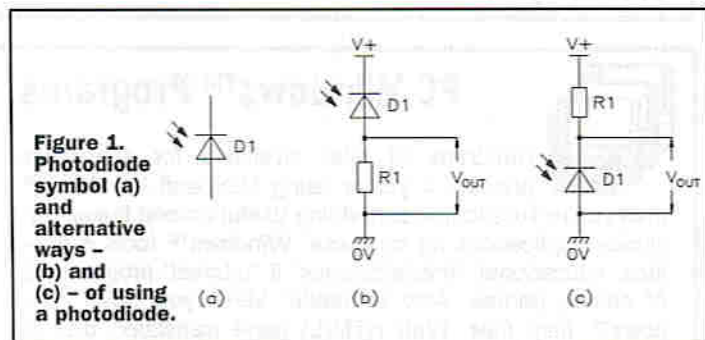

Figure 1. Photodiode symbol (a) and alternative ways - (b) and (c) - of using a photodiode.
inherently photosensitive; they act as very high impedances under dark conditions and as low impedances under bright ones. Normal diodes have their junctions shrouded in opaque material to inhibit this effect, but photodiodes are made to exploit it and use a translucent casing material; some photodiodes are made to respond to visible light, and some to infrared (IR) light. Figure 1(a) shows the standard symbol of a photodiode. In use, the photodiode is simply reverse-biased and the output voltage is taken from across a series resistor, which may be connected between the diode and ground as shown in Figure 1(b), or between the diode and the positive supply line, as in Figure 1(c).